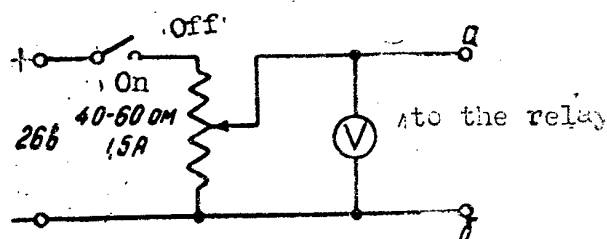

Figure 8: Relay adjustment circuit .
1. Assemble a test circuit /Fig.8/